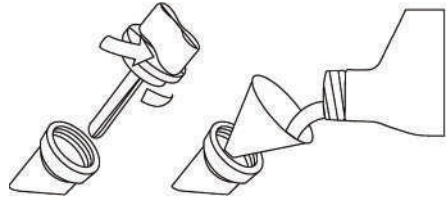

Figure 3: Oil Funnel
3. Using the supplied funnel pour the oil into the engine (see Figure 3).